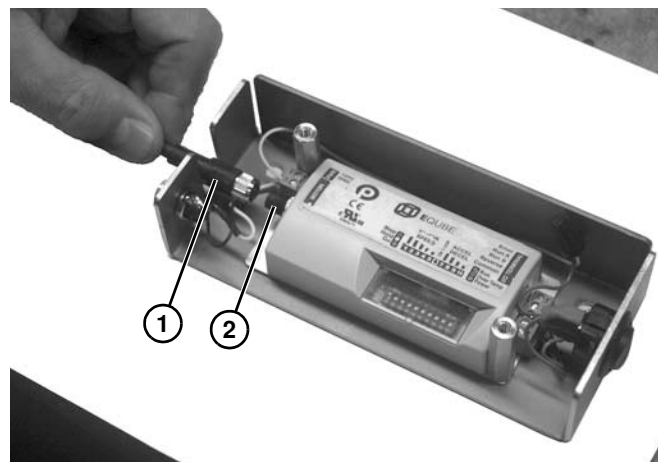

Figure 18
2. Attach end (Figure 18, item 1) of motor wiring to threaded end (Figure 18, item 2) on controller.